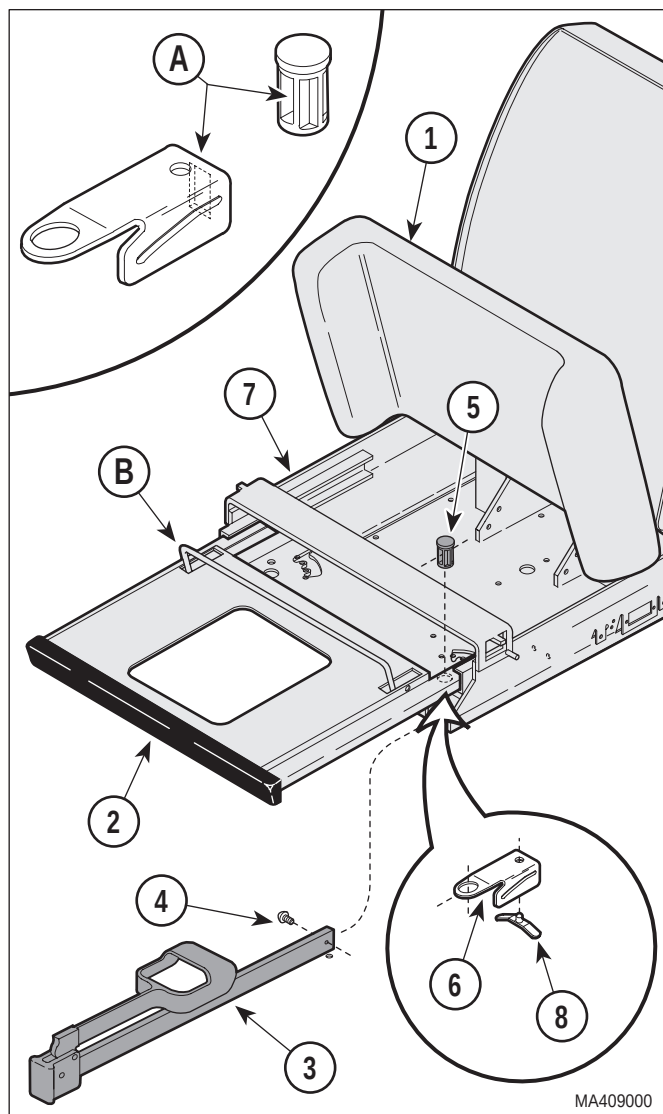

**Figure 4-6. Stirrup Components
- (1) Raise seat section (1, Figure 4-6) up.
- (2) Pull foot rest section (2) out all the way.
- (3) Pull stirrup (3) out far enough to access screw (4).
- (4) Remove screw (4) from stirrup (3).
- (5) Pull stirrup (3) out of pivot boss (5).
- (6) Remove pivot boss (5) and then guide bracket (6) from upper wrap weldment (7).
- (7) If worn, remove index spring (8) from guide bracket (6).